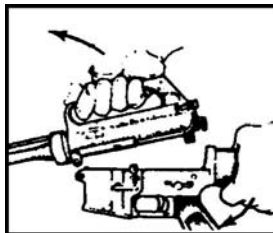

Figure 8. Separating the upper and lower receivers.
- f. Separate the upper and lower receivers (Figure 8).